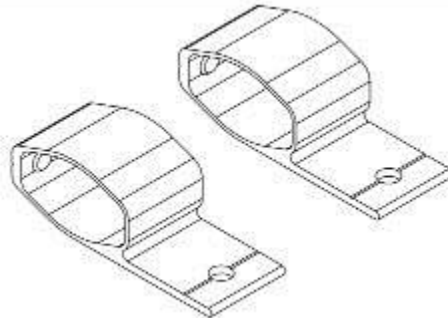

Fig. 1
- 1) If your pivot set has 6 or more springs per side it came with a set of tie down brackets (see Fig. 1).